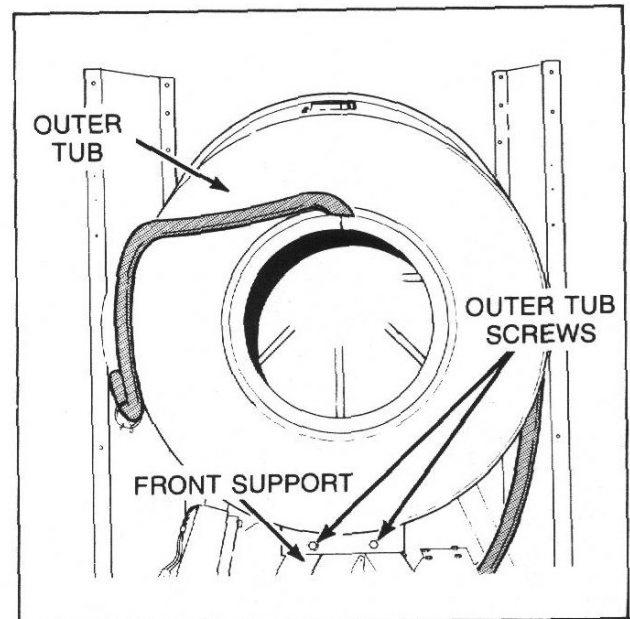

Figure 37
- k. Remove two screws, nuts, washers and lockwashers holding outer tub to front support, *Figure 37*.